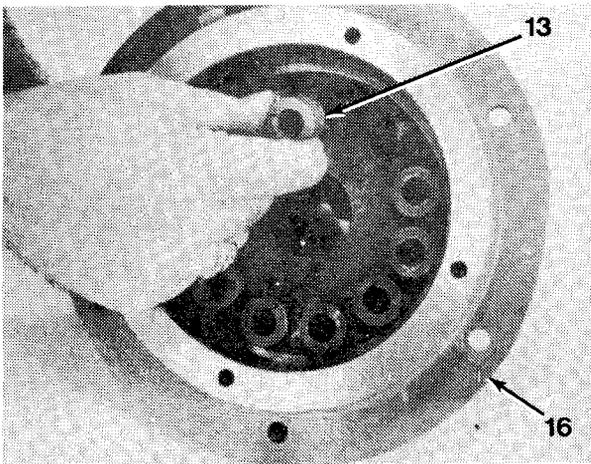

Figure 16-14
11. Install 12 die springs (13) in brake cylinder (16, Figure 16-14).